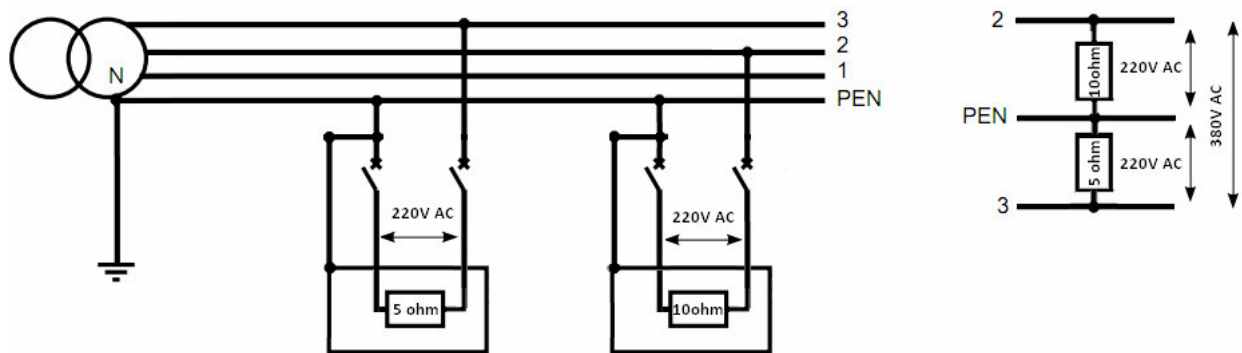

Figure 1: Three phase TN-C system
2. In a healthy power distribution system, the neutral line serves as a return path, dividing the voltage across the load connected at different phase. A rise in voltage at phase 1 would not affect the voltage level of phase 2 or phase 3 (see figure 1).